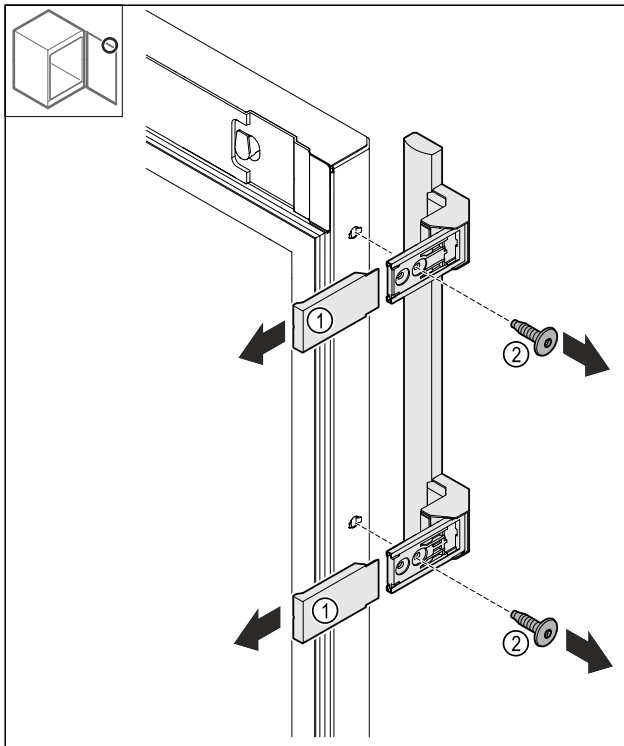

Fig. 20
- ▶ Remove the covers Fig. 20 (1).
- ▶ Loosen the screws Fig. 20 (2).